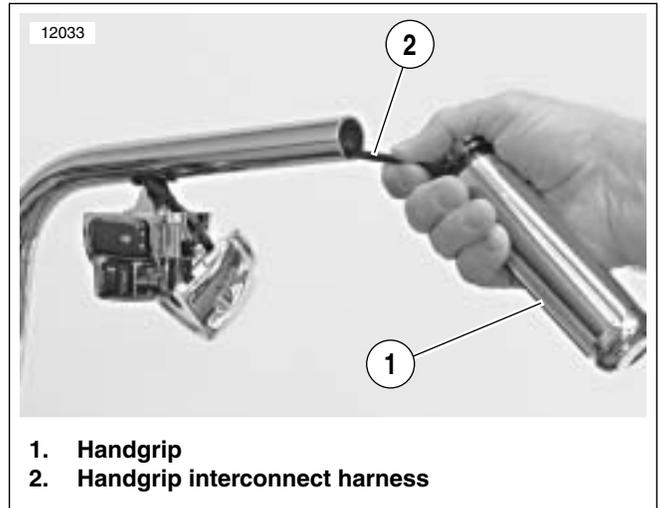

Figure 2-28. Throttle and Idle Cable Ferrules
7. See Figure 2-28. Raise upper housing enough to expose Throttle grip/cable assembly. Use a screwdriver to rotate cable ferrules in throttle grip notches. Remove cables from notches on inboard side of throttle grip.